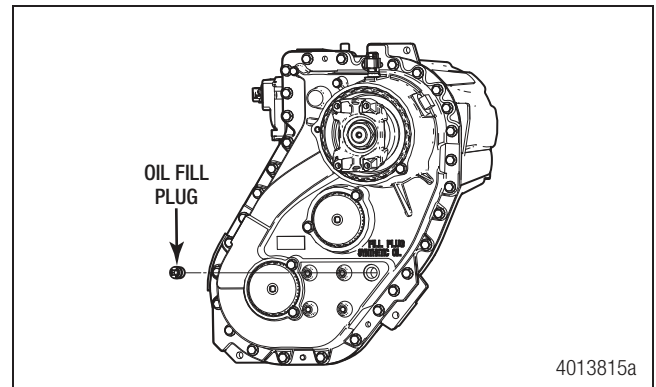

Figure 10.6
4. Clean the area around the fill plug. Remove the fill plug from the transfer case. Figure 10.6.